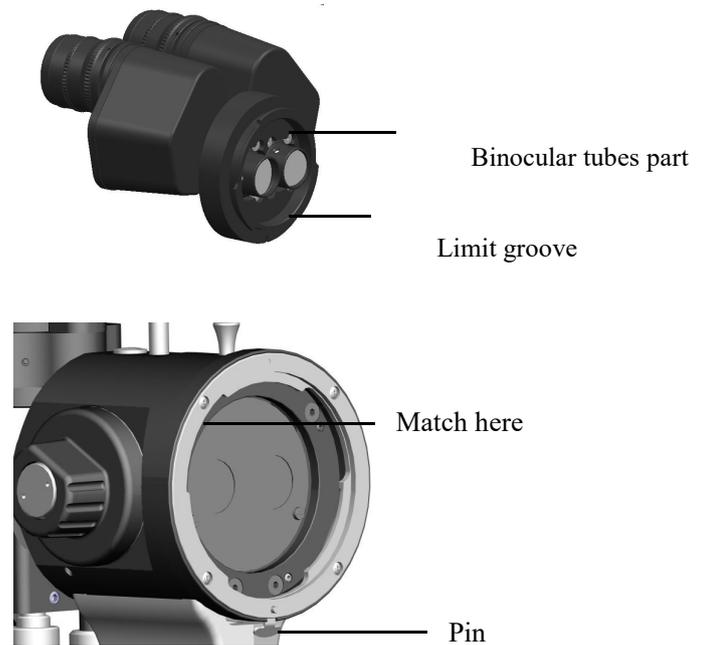

Fig.2.2.7
2. Take out the binocular tubes part, put the gas shield on the cylindrical surface of the binocular tubes, and then match the groove on the binocular tubes with the pin on the microscope body. Fasten the fixing screw on the body to the microscope (Fig.2.2.7). ATTENTION: Don't touch the objective lens and eyepiece when assembling.